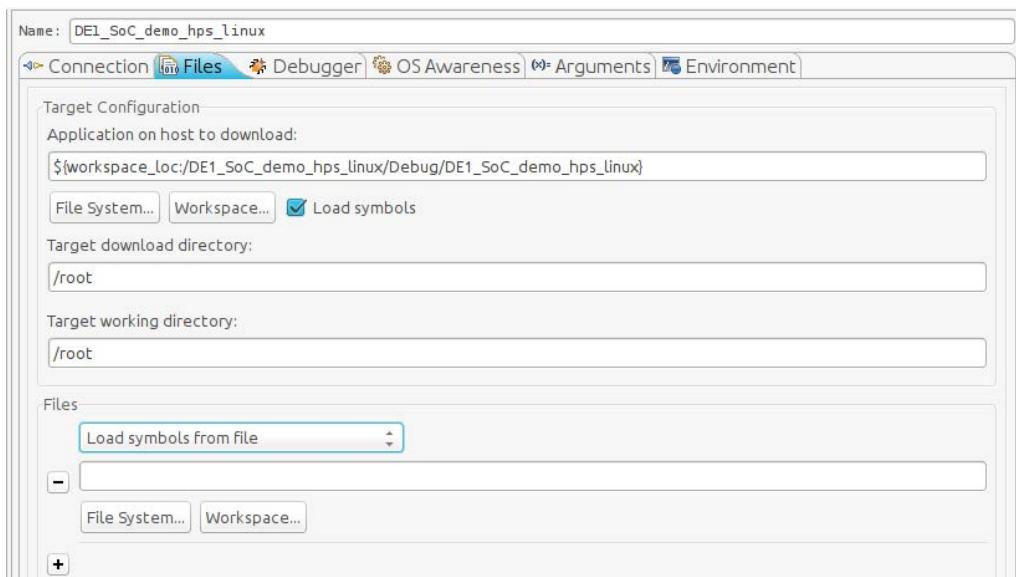

Figure 8-52. Debug Configuration "Files" Tab
- Set the "Target working directory" to "/root". You should have something similar to Figure 8-52.